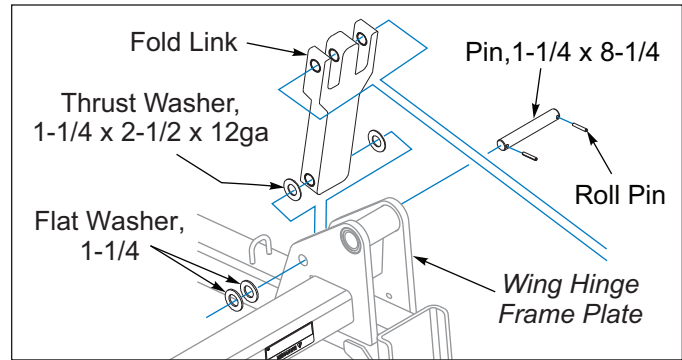

Figure 2-52: Wing Frame Hinge Assembly
3. Place the Fold Link End with the bushing between the Wing Hinge Frame Plates. Slide a 1-1/4 x 2-1/2 x 12ga Thrust Washer between the Fold Link and the Wing Frame Hinge Plates. Insert 1-1/4 x 8-1/4 Pin into the side of the Wing Hinge Plate with the Keeper Plate so the Roll Pin fits into the slot. See Figure 2-52. Place two Flat Washers on the end of the Pin. Secure with 5/16 x 2 Roll Pin.